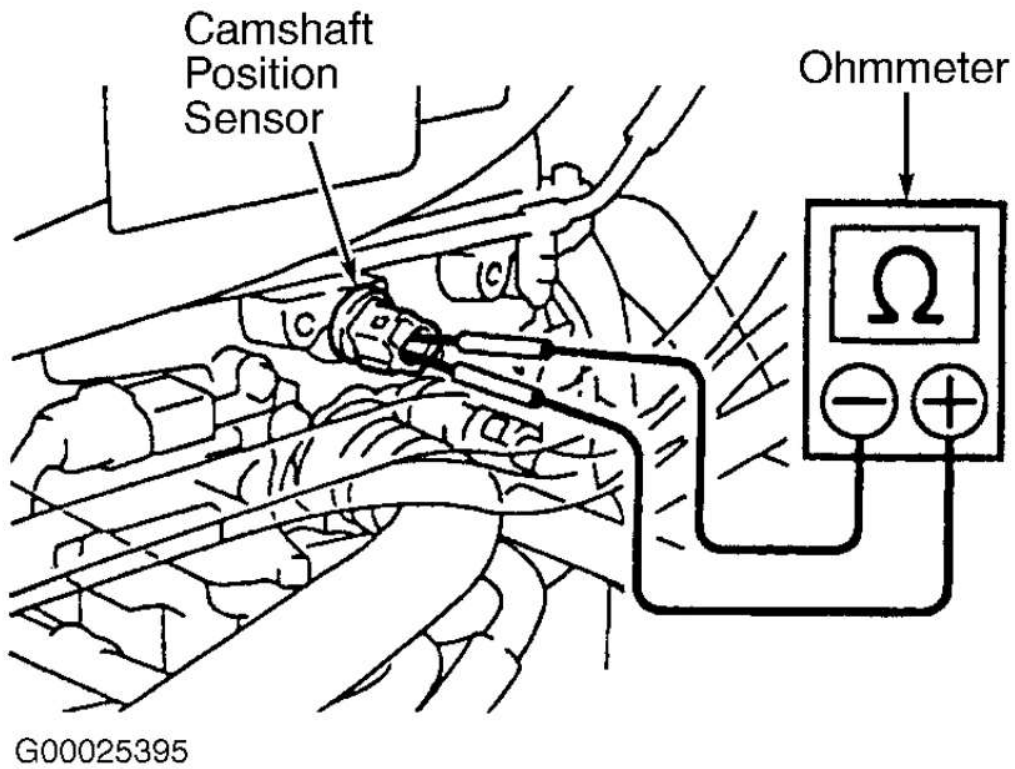
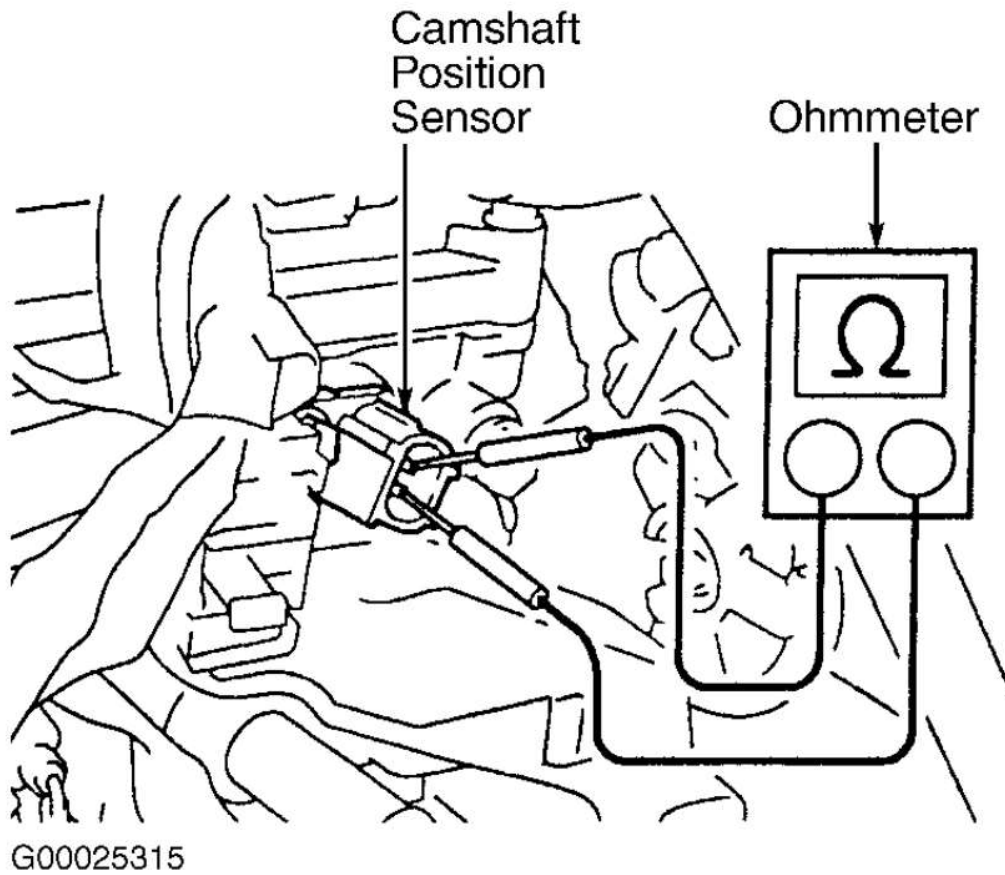

Fig. 43: Locating & Testing Camshaft Position Sensor (Prius)
Fig. 44: Locating & Testing Camshaft Position Sensor (RAV4)
1. Camshaft position sensor may also be referred to Variable Valve Timing (VVT) sensor. Disconnect electrical connector at camshaft position sensor. Camshaft position sensor is located on end of cylinder head at flywheel end of engine. See **Fig. 43** and **Fig. 44**. Using ohmmeter, check resistance between electrical terminals on camshaft position sensor.